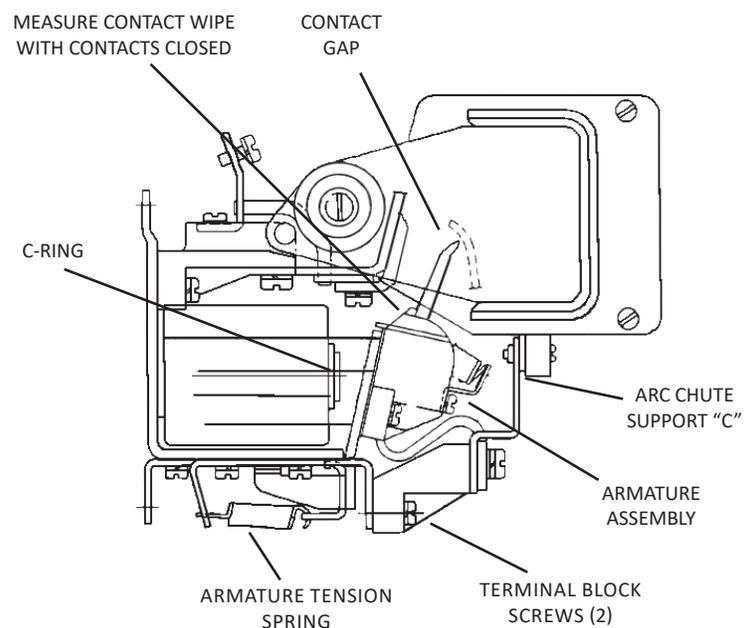

Figure 4
**Replace the arc chute** by sliding it over the arc runner and between the pole pieces. Tighten captive screw "A" and ensure that latch "B" is engaged. There must be electrical contact at arc chute support "C", figure 4.
(See figure 4)